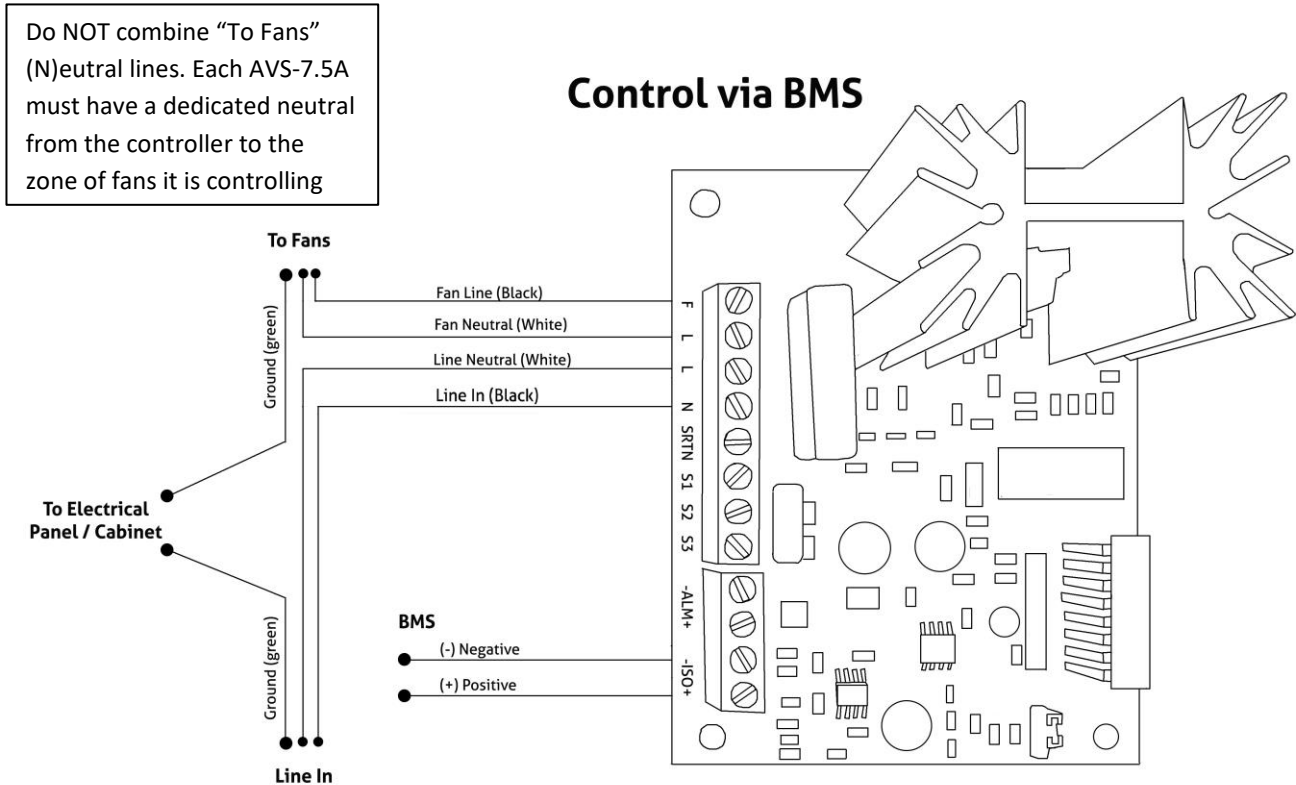

Figure 1
- Electrical connection should be made according to the wiring diagram (see Figure 1)